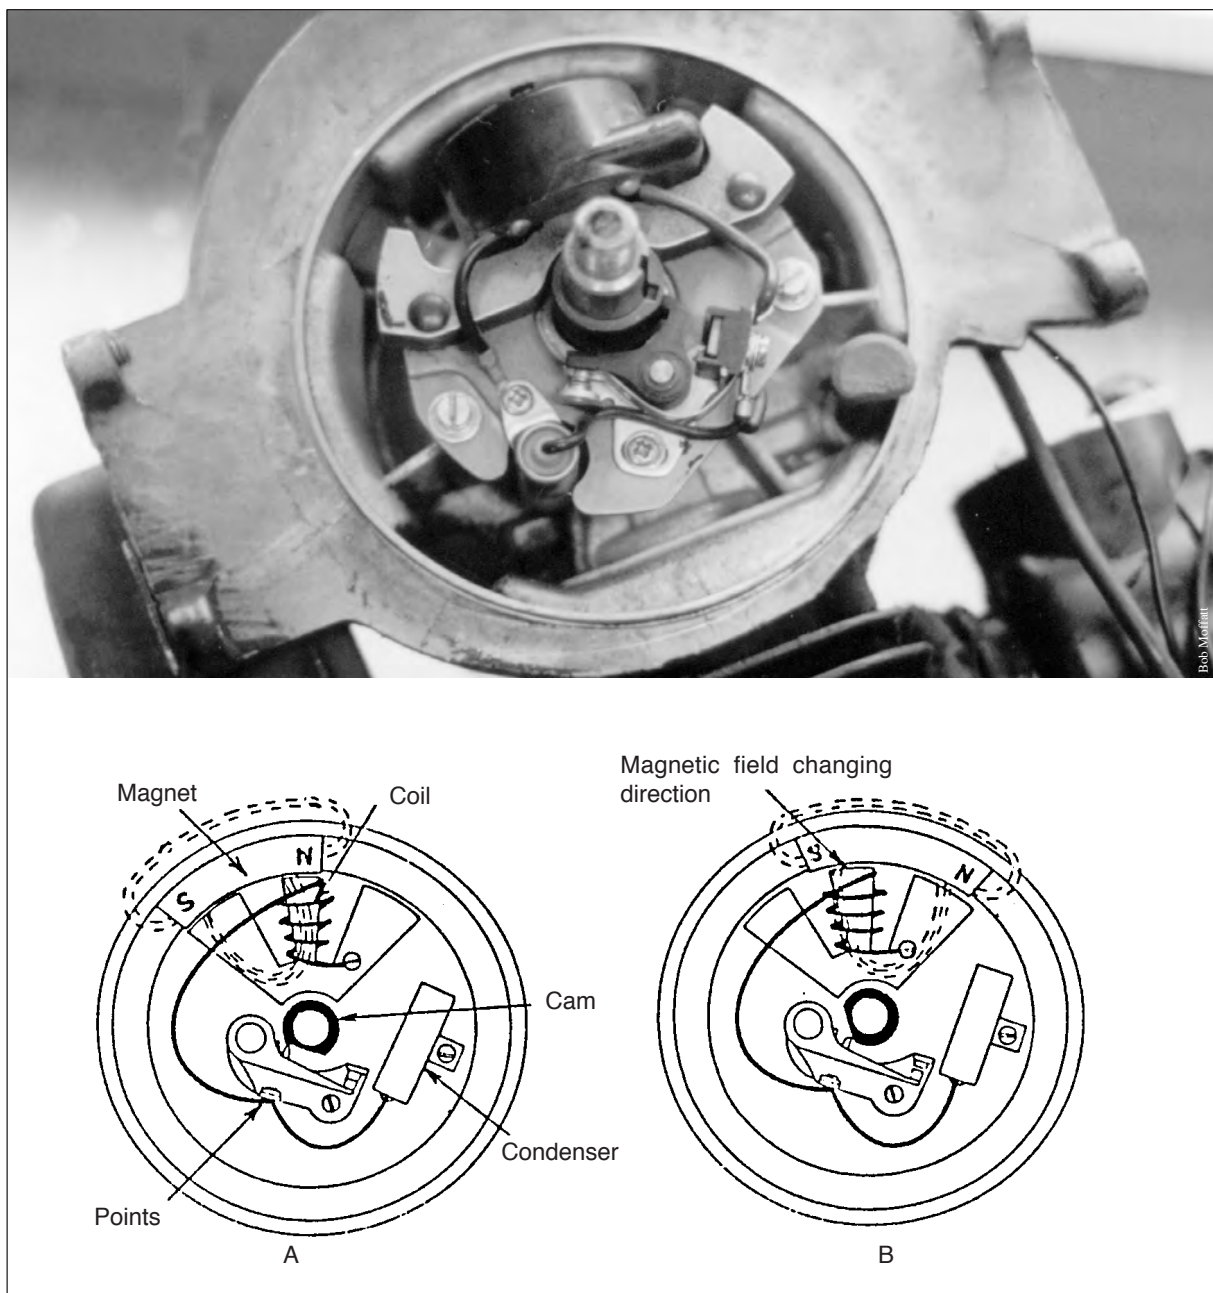

Fig 25 Shows the operation of a flywheel magneto. (Secondary windings are not shown)
As the flywheel turns to the position shown in illustration (A) of *fig 25* the magnetic lines of force will pass from the North Pole through the centre and left hand limbs of the soft iron core to the South Pole. In doing so an Electro Motive Force (EMF) is induced in the primary coil windings, the breaker points being closed allows the EMF to flow through the windings forming an electro-magnet.
This builds up a magnetic field around the primary windings which penetrates the secondary windings of the coil. The flywheel continues to turn as shown in diagram (B) of *fig 25* where the North Pole of the magnet aligns with the right hand limb of the core and the South Pole moves to the centre limb of the core.